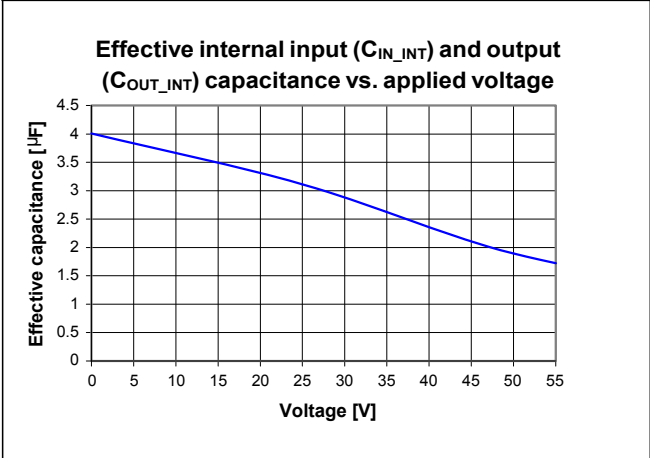

Figure 20 – Effective internal input and output capacitance vs. voltage – ceramic type
- >> Internal output capacitance: see Figure 20